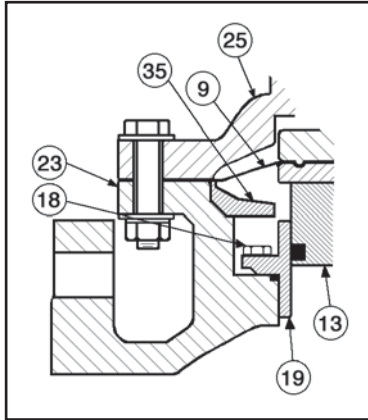

Figure 5: Opt-81 — Composition Diaphragm Construction, 2" (DN50) and Smaller
1. A supported diaphragm (9) construction is designated as Opt-81 High Outlet Pressure. Both upwards and downwards directions are protected against pressure reversal; i.e. pressure on one side of diaphragm (9) with no pressure on other side of diaphragm (9).
2. **Body Sizes 2" (DN50) and Smaller; Composition Diaphragm.** (See Figure 5.)
- a. Body (23) is specially machined with a shelf to capture a lower diaphragm support ring (35).
- b. Cover dome (25) is specially machined to provide a surface for the upper diaphragm (9) support. Lower diaphragm support ring (35) is captured by its location. Upon removal of cover dome (25) and diaphragm (9), the lower diaphragm support ring (35) can be lifted upwards and out of the body (23) cavity.